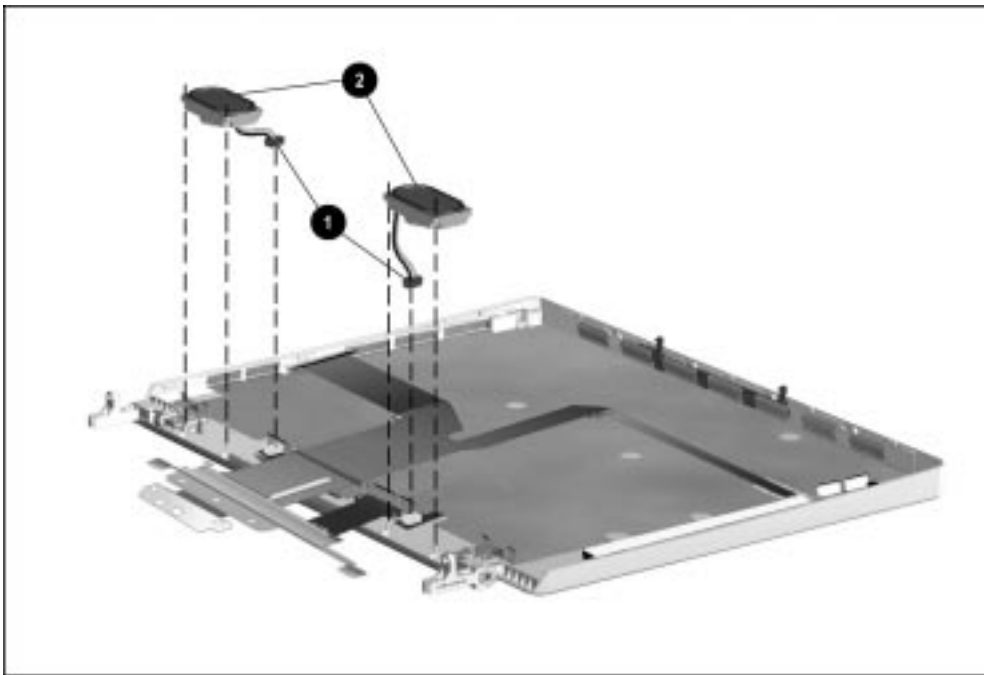

Figure 5-67. *Removing the Speaker Assemblies*
8. Disconnect the speaker cable ❶ from the display audio cable and remove the speaker from the display enclosure ❷ (Figure 5-67).